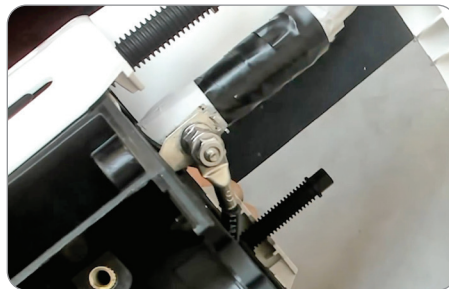

Figure 22
6. Attach bonding eyelet if applicable. (Figure 22)